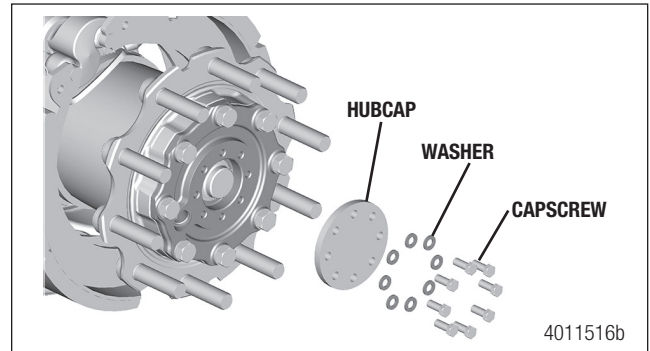

Figure 8.32
6. Install the hubcap and tighten the capscrews to specification. Refer to Section 12 Specifications on page 77. Figure 8.32.